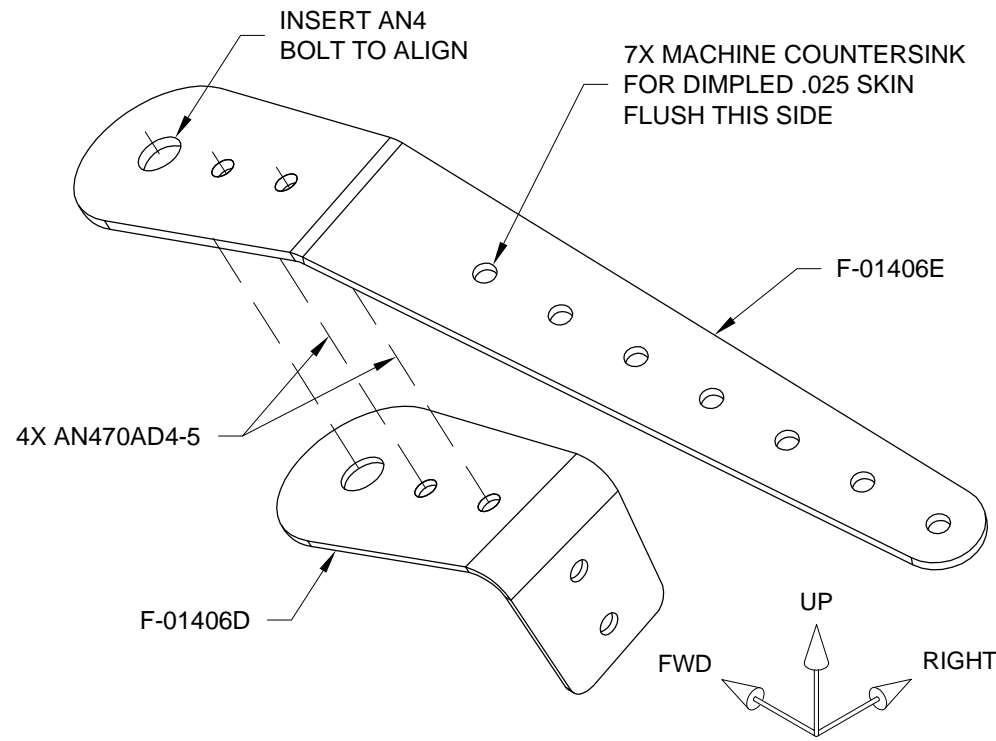

FIGURE 1: LUG ASSEMBLY
Step 2: Insert a bolt in the .250 [6.35mm] hole to align the F-01406D Shoulder Harness Lug Clip to the F-01406E Shoulder Harness Lug. See Figure 1.
Step 3: Rivet the F-01406D Shoulder Harness Lug Clip to the F-01406E Shoulder Harness Lug using the rivets called out in Figure 1.